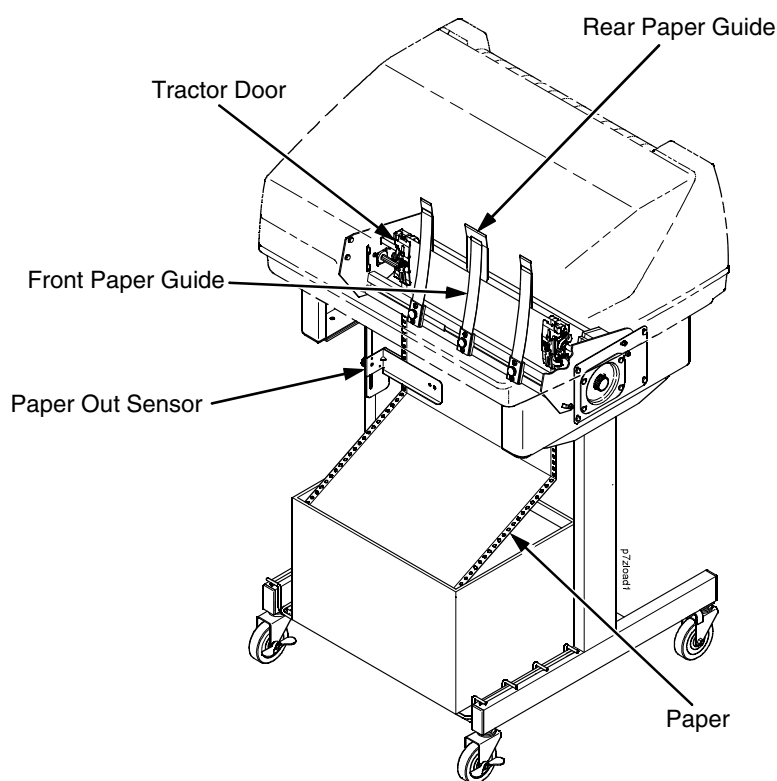
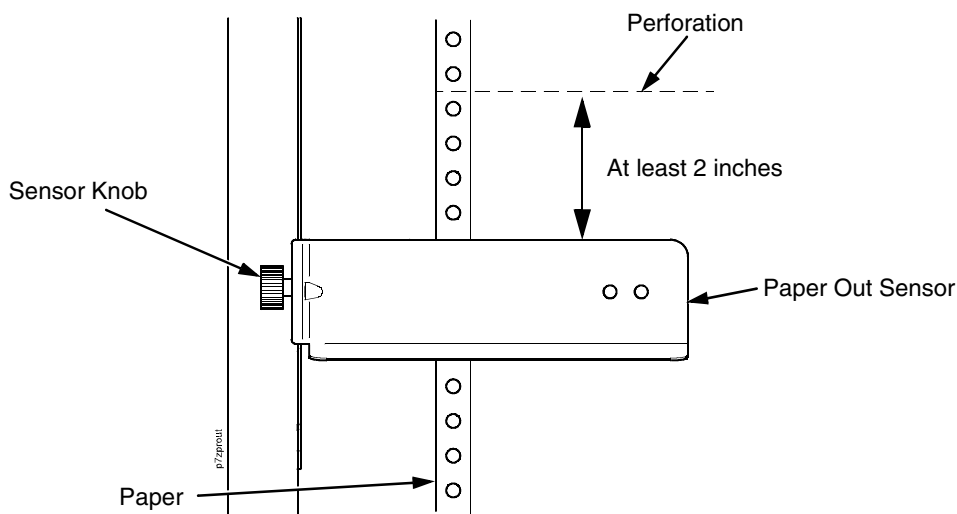

Figure 109. Loading Paper
Figure 112. The Paper Out Sensor
The paper out sensor indicates when the printer runs out of paper. (The sensor does not work with black-backed forms.) Unlike the standard pedestal printer, on a ZT printer you must load the paper through the paper out sensor slot (Figure 109 and Figure 112). Correct positioning of the paper out sensor ensures that the last form the printer prints will be properly presented to the tear bar. To position the paper out sensor, do the following:
3. Position the paper out sensor so that there are at least two inches between a perforation and the top of the paper out sensor. (Figure 112.)